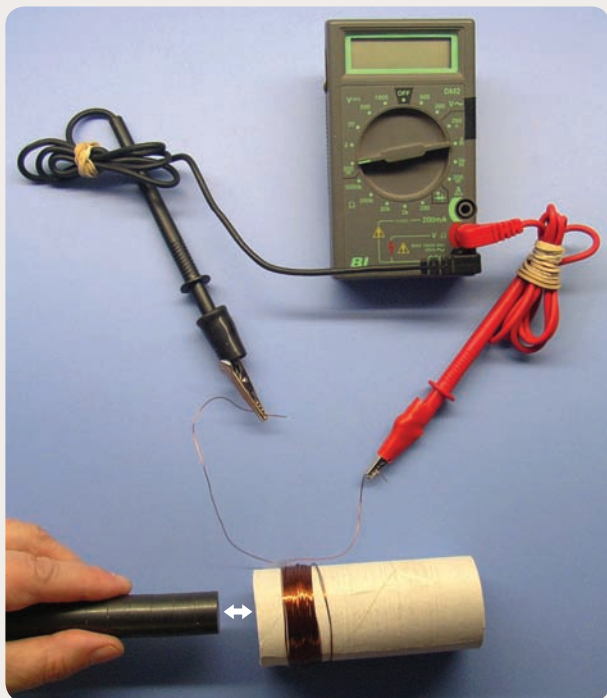

Figure C1.57
step 3: Connect the secondary coil to the digital multimeter. Set up the multimeter so it is able to measure DC millivolts. While observing the reading on the multimeter, move one end of the bar magnet toward and away from the secondary coil, as shown in Figure C1.57. Record your observations.